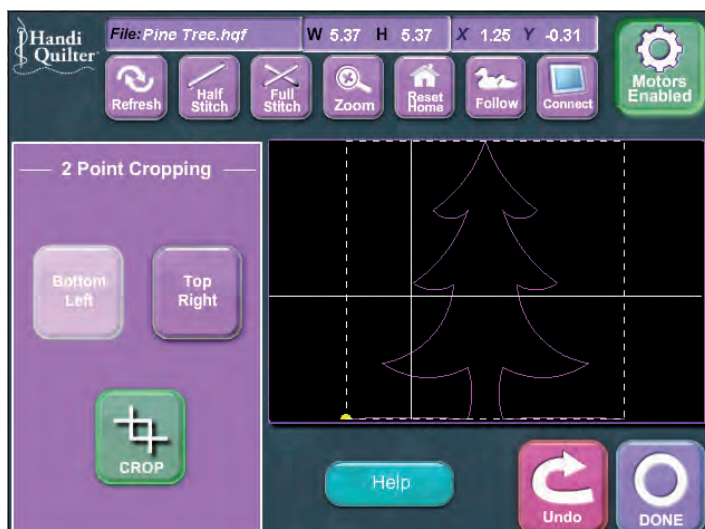

Figure 19
- Identify the bottom left-hand corner of the pattern area that is to be kept by moving the machine to align the crosshairs with that point (Figure 19).